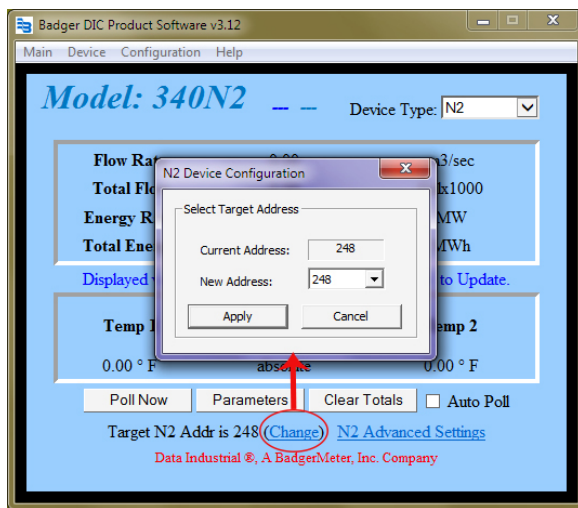

Figure 13: Change Address
- If you know the current transmitter Address, click **Change** to open the Address window and select the correct Address from the drop-down menu. See Figure 13. Then click **Apply**.